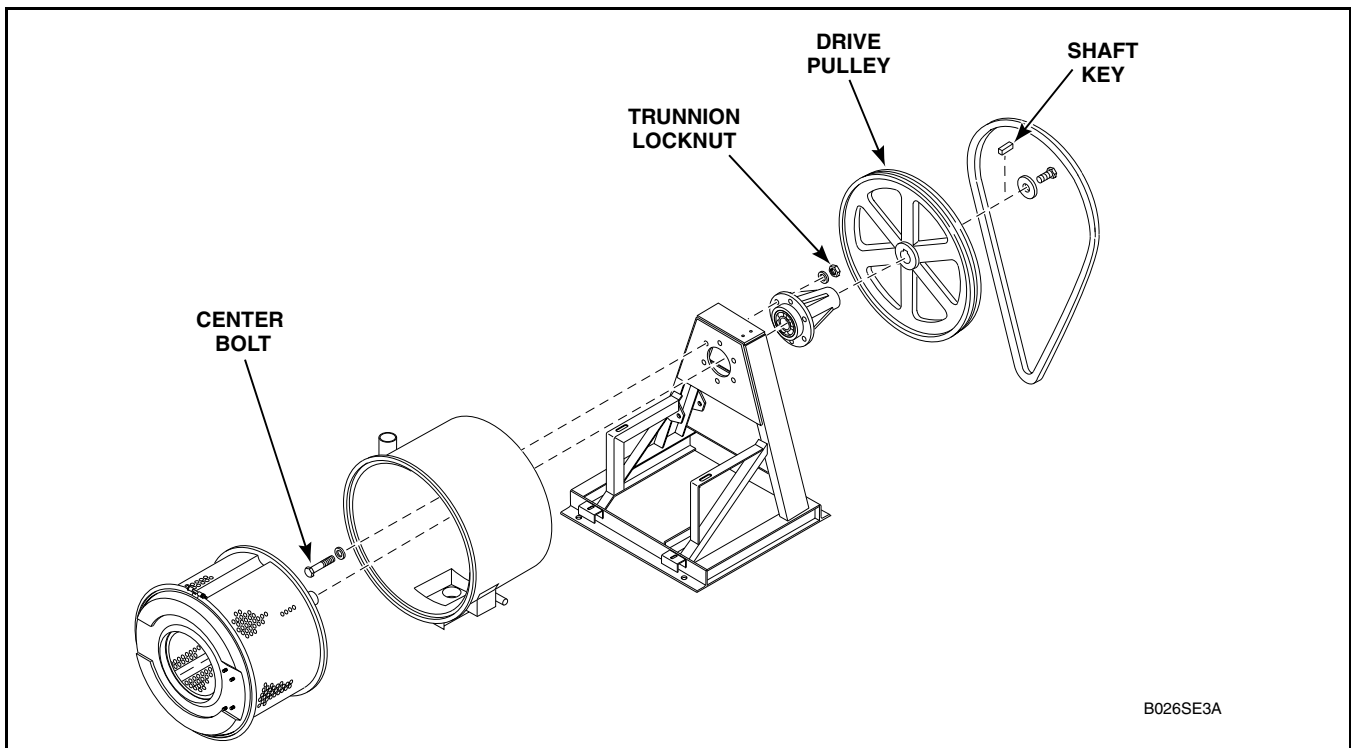

Figure 21
- Remove center bolt, refer to *Figure 21*.
- Remove drive pulley, refer to *Figure 21*.
- Remove shaft key, refer to *Figure 21*.
- Remove trunnion locknuts, refer to *Figure 21*.